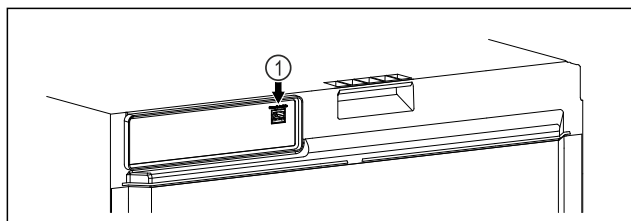

Fig. 116
- SmartModule Fig. 116 (1) has been inserted.